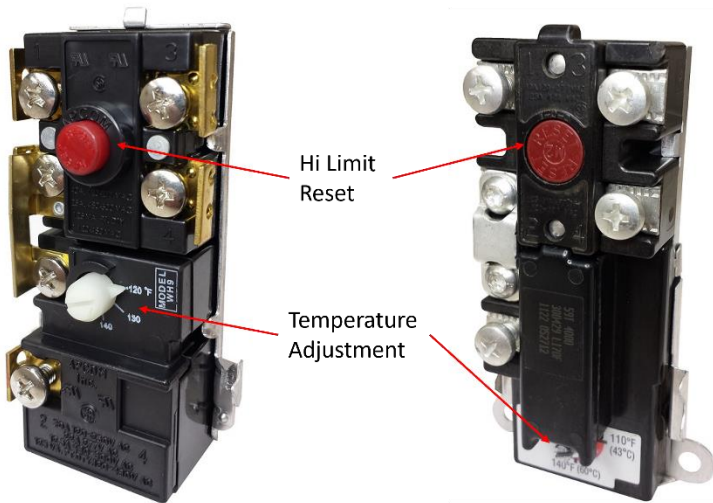

FIGURE 2
- ❑ The button overlay provides the user with a means to alter the configuration settings and control the operation of the water heater. A brief description of the basic functionality of each button is provided below. Detailed descriptions of how to use these buttons to perform certain functions is provided throughout this manual. (See FIGURE 2 on page 32).